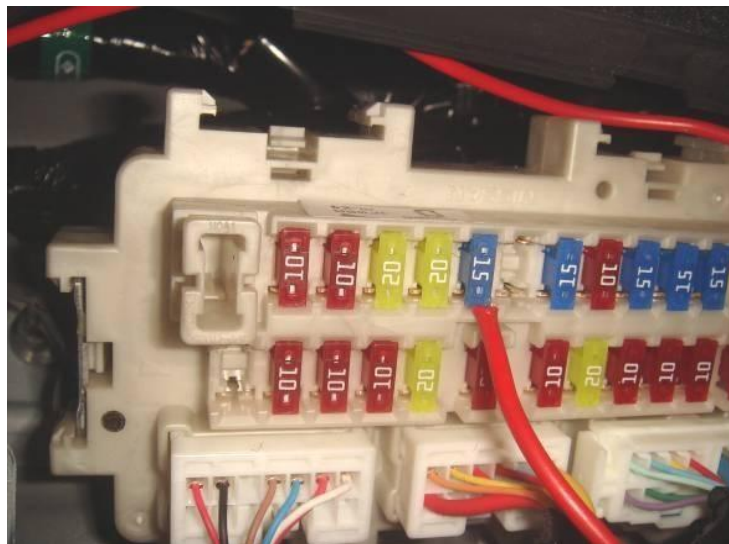

Figure 2-1
1. Find the fuse box and connect the red cable (positive) to the fuse in the car. (Figure 2-1)